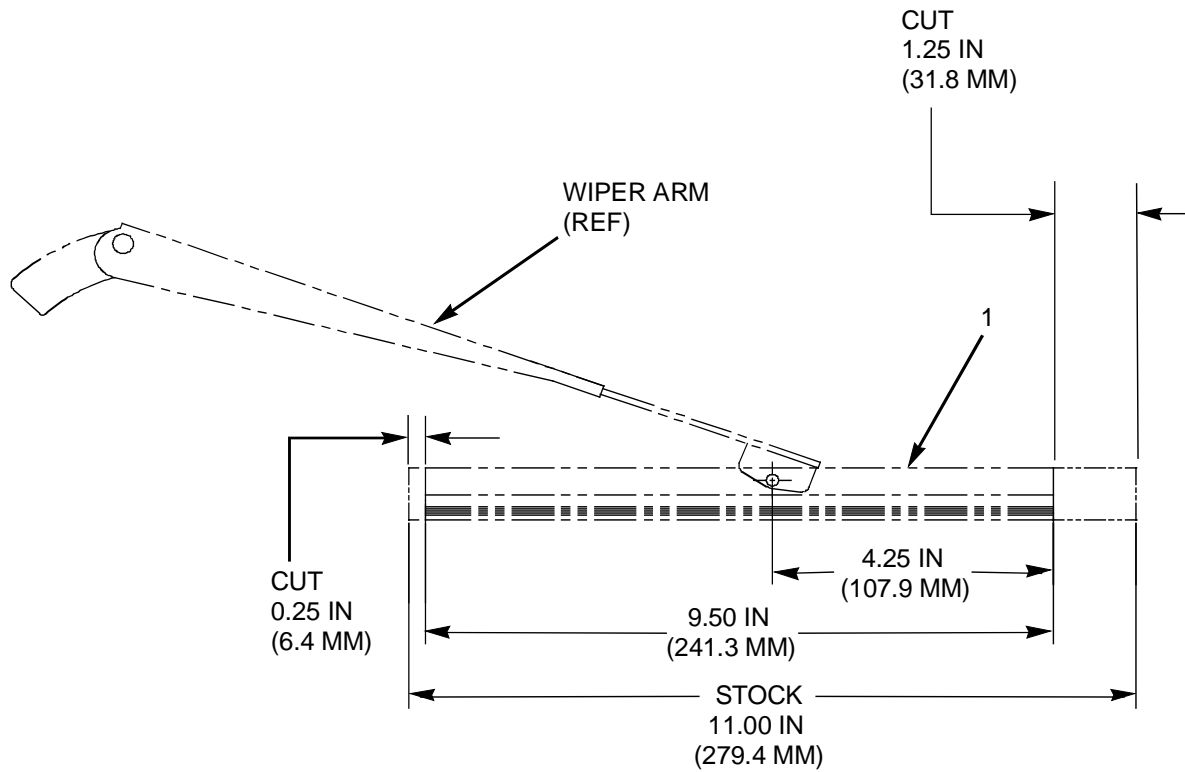

Figure 1-30. Windshield Wiper Blade Modification and Installation (Sheet 1 of 2) (2 and 4 Door)
- 6) Modify and install windshield wiper blades (see figure 1-30).
- a. Cut HArD Kit windshield wiper blade (1) per figure 1-30.